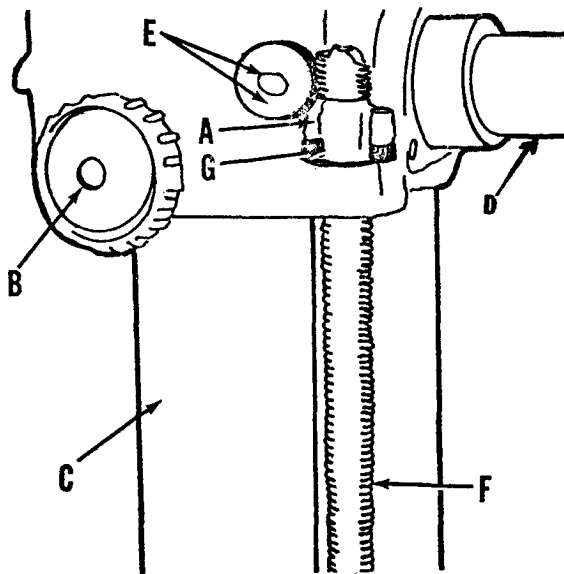

Fig 7 - Quill Adjustments
The quill can be locked at any desired point in its travel, by tightening the quill locking handle (B) Fig. 7. This is an especially desirable feature for set-up of tooling for production type operations.
1. Make sure the quill locking handle (B) Fig. 7 is loose.
2. Remove two screws and washers (E) Fig. 7. Only one of the screws and washers (E) can be seen in Fig. 7. The other screw and washer is located on the left front side of the head casting.
3. Tighten the two quill adjusting screws which are located directly underneath the two screws and washers (E) Fig. 7. It is not necessary to tighten these screws too much.
5. After proper adjustment has been made, replace screws and washers (E) Fig. 7.
1. Remove the Micro-nut (G) and locking sleeve (A) Fig. 7. and make sure the quill locking handle (B) is loose.
2. Rotate the pilot wheel and lower the quill (C) Fig. 7, until the rack on the back of the quill disengages with the pinion shaft (D). A special design is incorporated into the quill to prevent it from dropping out of the head casting.
3. When the quill (C) Fig. 7. is lowered as far as possible, turn the pilot wheel counterclockwise to increase or clockwise to decrease the return spring tension.
4. When the desired tension is obtained push up the quill (C) until it engages with the pinion shaft (D) Fig. 7. The spring tension will then return the quill to the up position.
5. Replace the Micro-nut (G) and locking sleeve (A) Fig. 7.
When drilling one or two holes to a predetermined depth, the calibrations on the face of the depth stop rod (F) Fig. 7 can be used.
1. Raise the locking sleeve (A) Fig. 7, and turn the micro-nut (G) to the desired position on the stop rod (F).
2. Lower the locking sleeve (A) so it will engage micro-nut (G) Fig. 7. Lock sleeve (A) in place with thumb screw if drill press is mounted in other than vertical position. When the drill press is mounted with the chuck pointing "up", the locking sleeve (A) and micro-nut (G) Fig. 7, should be reversed on the stop rod (F).
3. When locking sleeve (A) is in place on the micro-nut (G) Fig. 7, the micro-nut cannot be turned. When a change in depth is required, the locking sleeve (A) must be raised, and while it is raised, turn the micro-nut (G) the necessary calibration marks. Each mark represents .002". Then lower the locking sleeve (A).